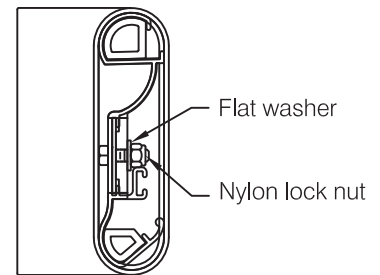

fig 4
**Step 6:** Attach molded returns, outside corners and inside corners to retainer with accessory seated firmly and squarely while tightening. Fasten with ¼" bolt, flat washer and nylon lock-nut provided. *Caution:* Do not use a lock washer, use flat washer only. Always place a flat washer between nut and molded tab. Tighten to 10 ft-lbs maximum torque, see **fig 4**.